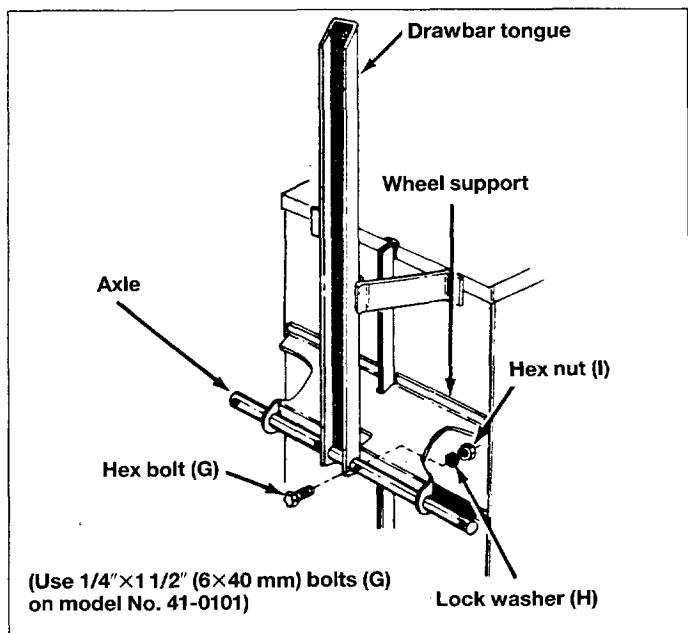

Fig. 11
16. Assemble axle and drawbar tongue to wheel support keeping open side of tongue facing down. Fasten axle to wheel support or axle brackets, using  $1/4'' \times 1 1/2''$  (6  $\times$  40mm) long hex bolts (G) lock washers (H) and hex nuts (I). See figure 11.